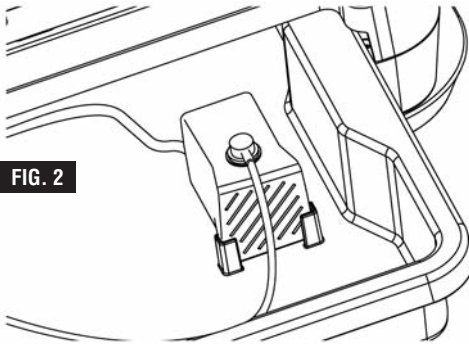

FIG. 2
1. Connect the end of the water hose to the water outlet on the water pump (Fig. 2).
2. Locate the water-pump-positioning tabs in the water tray. With the water tray in place beneath the saw, position the water pump as shown in (Fig. 2.) Press the water pump in place to secure it to the water tray with the attached suction cups.